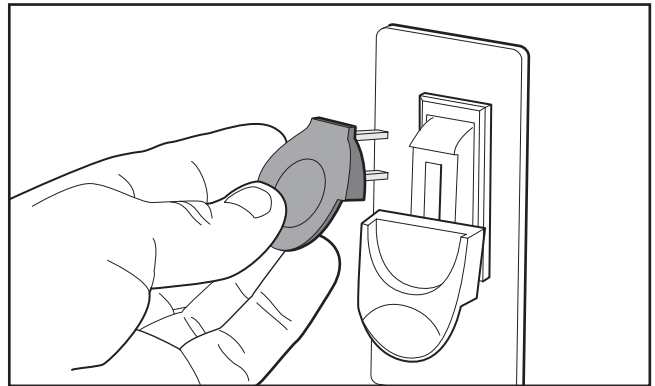

Figure 35. Example of removing switch key from paddle switch.
5. Remove switch disabling key, as shown in **Figure 35**.